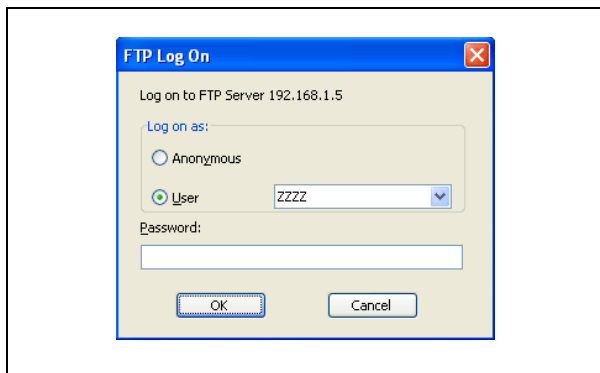

Fig. 3.16 FTP Log on Dialog
### 3.13 Using FTP Access – Fig. 3.16
3. Open the *Look in:* drop-down menu and select the FTP address of the remote Recorder. The 'FTP Log On' dialog box is displayed – see Fig. 3.16.